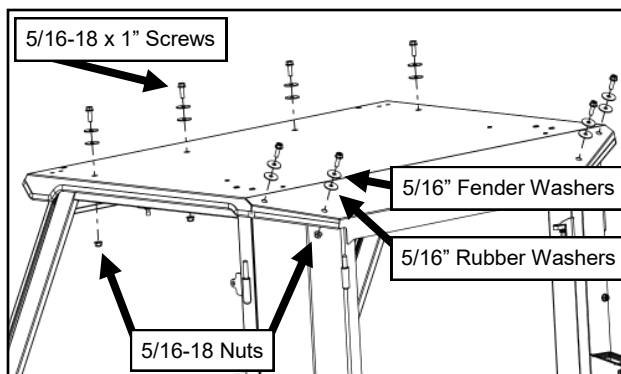

Fig. 14.3 (Roof Fasteners)
- 14.3** With assistance, set the roof on top of the cab. Loosely secure with fender washers and rubber washers on the (8) screws through the top of the roof into the windshield support and rear legs. See Figure 14.3.